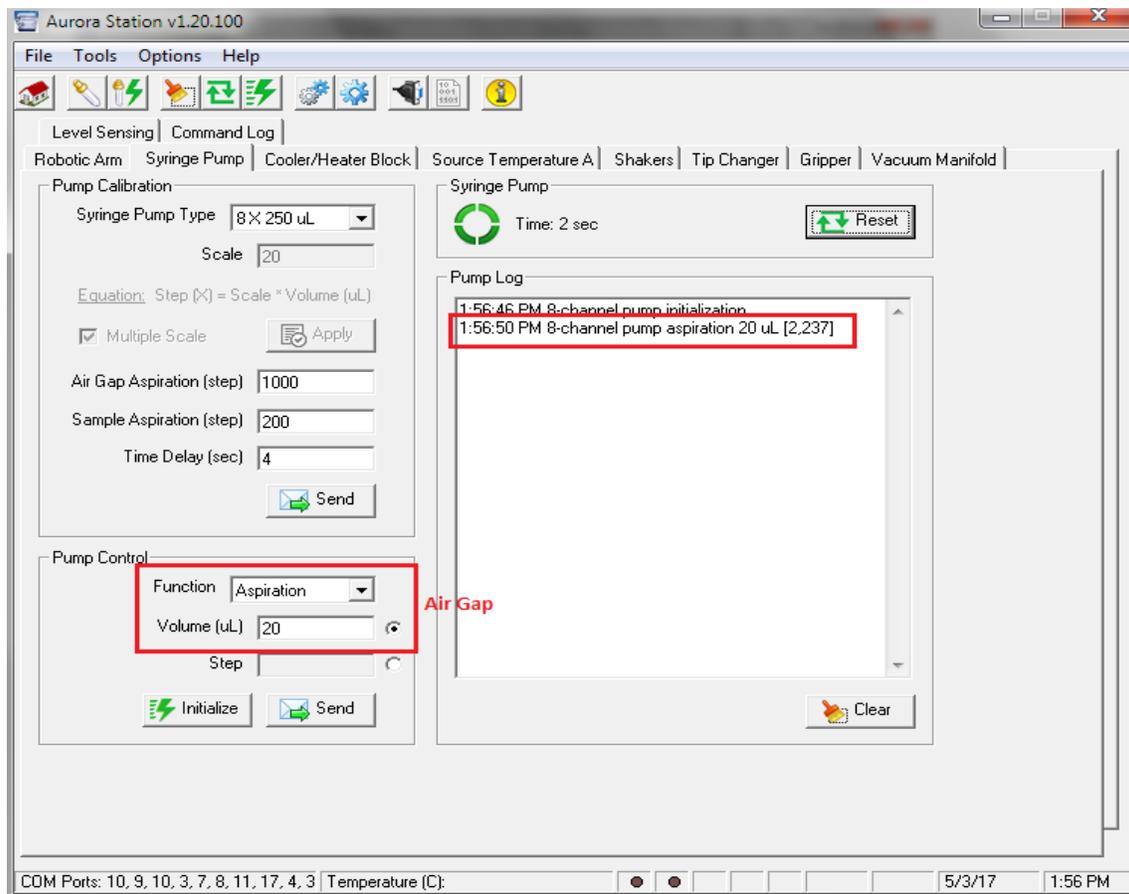

Figure 9-55 Syringe Pump –Aspirate 20 μ L Air-gap
6. Add a 20 μ L air-gap in the volume column and hit send (there will be volume & steps displayed in the log table on the left. (*Figure 9-55 Syringe Pump –Aspirate 20 μ L Air-gap*)